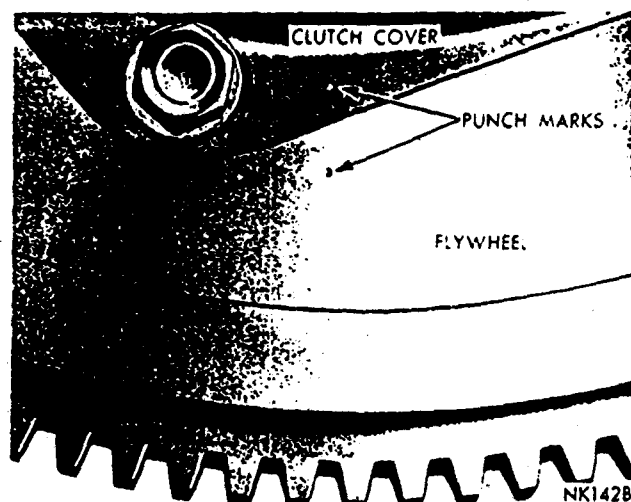

Fig. 6—Marking Clutch and Flywheel
Clean the support, using a suitable solvent, then inspect for burrs. Remove if necessary. Clean and inspect the adjusting screws for pulled or stripped threads, then apply a thin film of lubricant to the threads, socket and washer (Fig. 6). Replace adjuster screw if corrosion of any part inhibits very free operation.
(2) Using brake spring pliers (Fig. 6) unhook upper shoe-to-shoe spring. Unhook and remove shoe hold down springs (Fig. 7).
(3) Disconnect parking brake cable from parking brake lever.